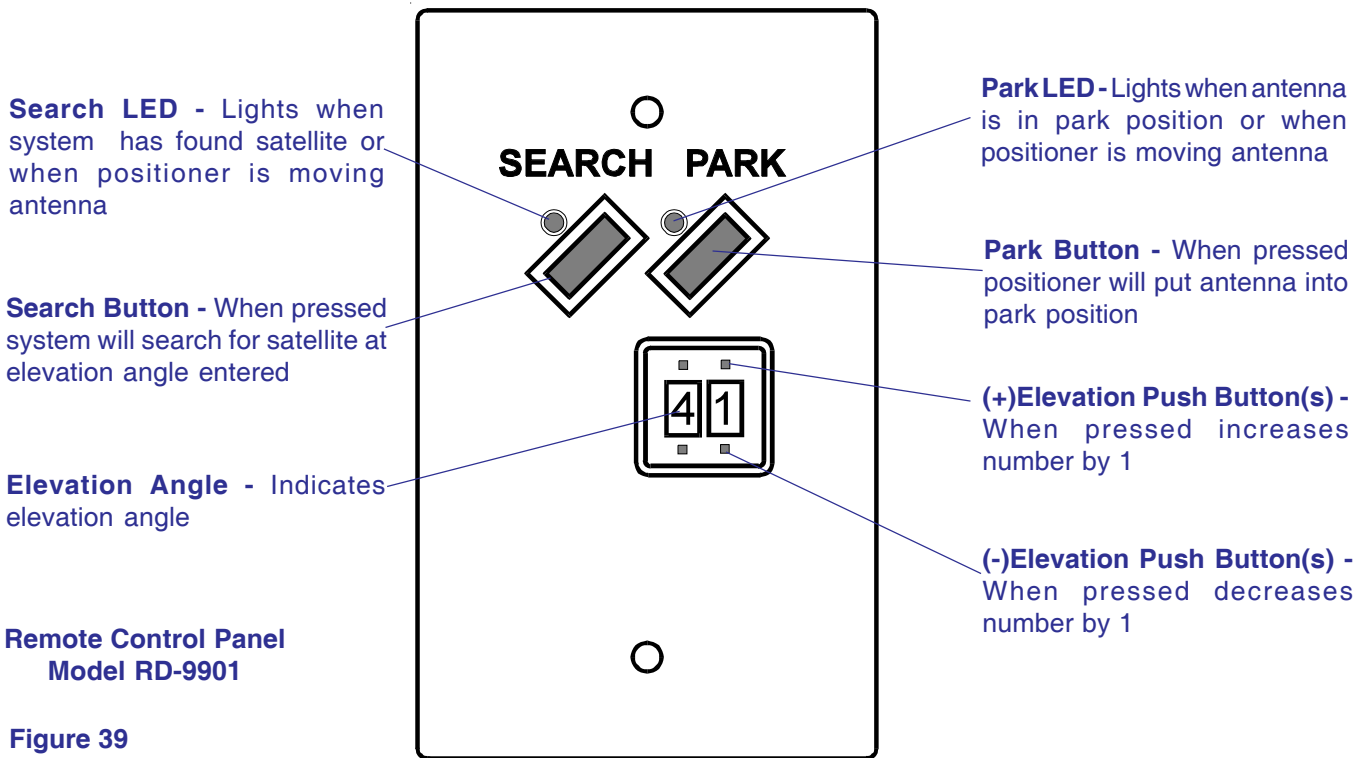

Figure 39
The Remote Panel allows you to "hide" the positioner and still operate the system from the remote panel. Figure 39 shows the remote panel controls and operations.
3. On remote panel press **[+/-]** elevation buttons until you have the correct elevation angle, Figure 39.
To park the antenna from the remote control panel, press **[PARK]** button. See Figure 39. Both LED's will light while antenna is moving; only the park LED will stay on once the antenna is in the park position. To stop the park function, press **[PARK or SEARCH]** button.